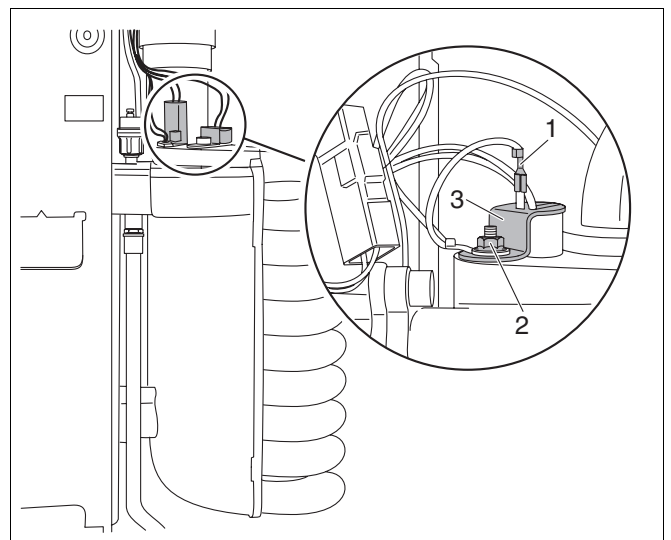

Fig. 65 Replacing the glow ingitor
- Remove the earth (ground) lead from the glow ingitor (fig. 65, item 1).
- Loosen nut on clamp used to secure earth (ground) lead (fig. 65, item 2).
- Detach retaining plate of glow ingitor (fig. 65, item 3) and remove glow ingitor.